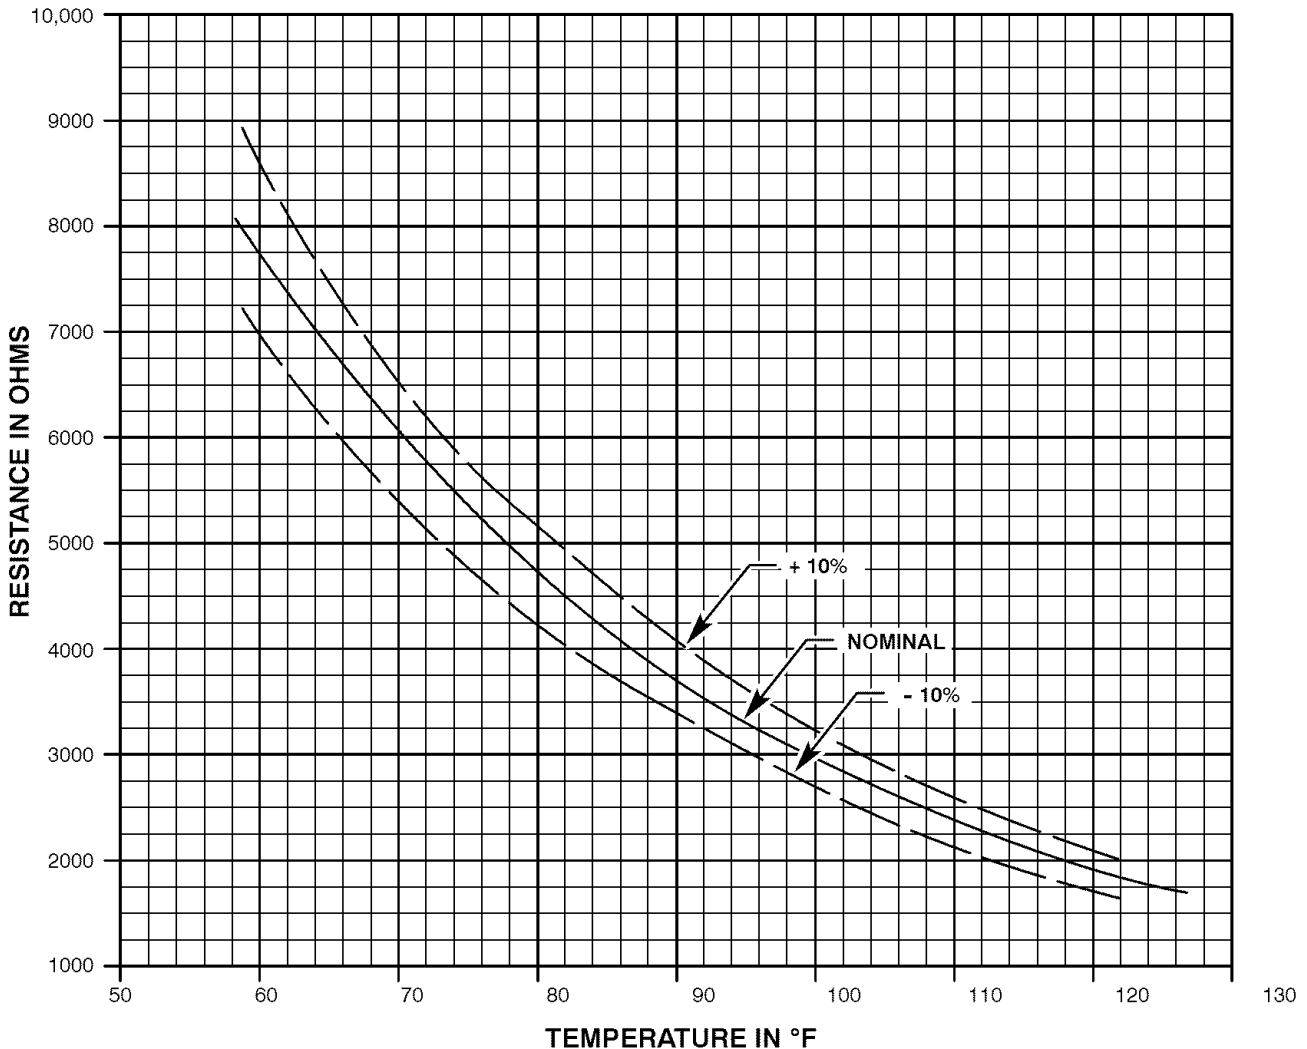

Fig. 9 - Sensor Resistance/Temperature Chart
- c. Check sensor resistance with an ohmmeter and compare resistance/temperature readings to those in Fig. 9.
- d. If sensor is within tolerance shown in Fig. 9, replace MotorMaster®. If sensor is NOT within tolerance shown in Fig. 9, replace sensor.